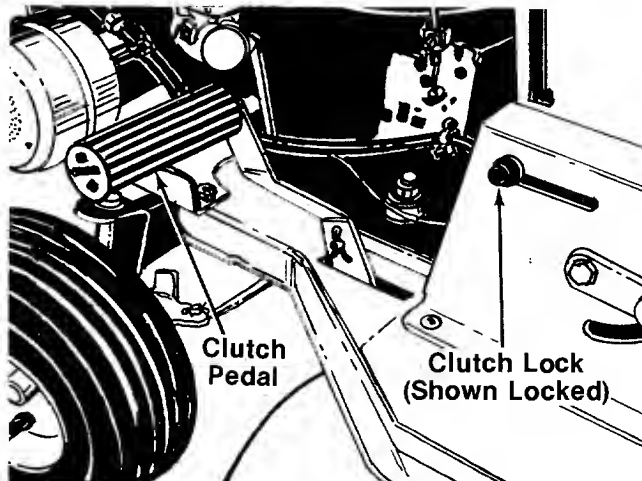

FIGURE 10.
The clutch pedal is located on the left hand side of the tractor and is operated with your left foot. Depress the pedal to disengage the drive mechanism. Release the clutch slowly to engage. The clutch and brake pedals must both be depressed when stopping the tractor. When shifting gears, the clutch pedal must be disengaged, and the tractor cannot be moving. See figure 10.
When the clutch pedal is depressed all the way, it can be locked by lifting up the lock button. The pedal will stay depressed. To release, depress the pedal. See figure 10.
3. Depress the clutch pedal and set the clutch lock. See figure 10.